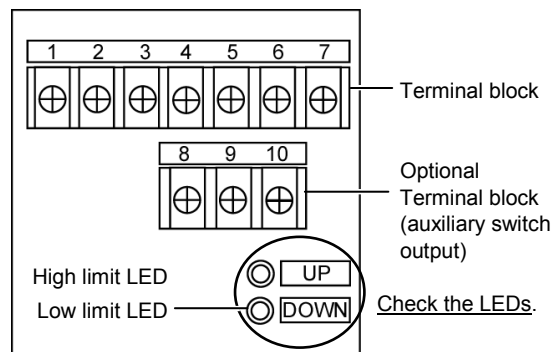

Figure 10. High and low limit LEDs
- Motorized operation: The high and low limit LEDs light up in the fully open and fully closed positions. (Refer to Fig. 10.)